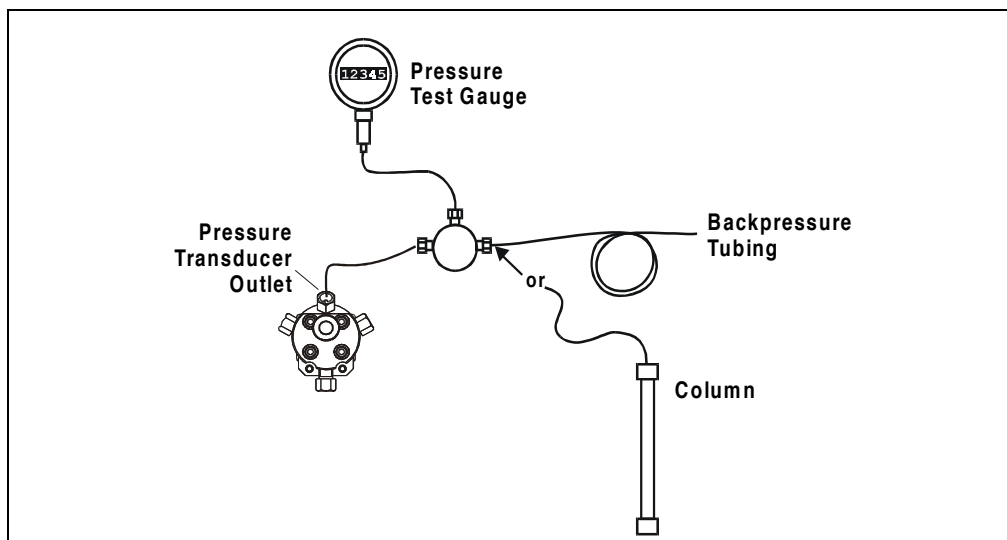

Figure C-28. Pressure Gauge Installation
2. Install a pressure test gauge between the pressure transducer outlet and one of the following: backpressure tubing or a separator column (see Figure C-28). The pressure gauge assembly (P/N 046175) includes a gauge, backpressure tubing, and required fittings.